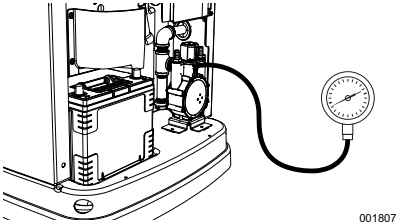

Figure 5-4. Checking Pressure with Manometer
2. See Figure 5-4. Remove top fuel pressure test port from fuel regulator and install fuel pressure tester (manometer).